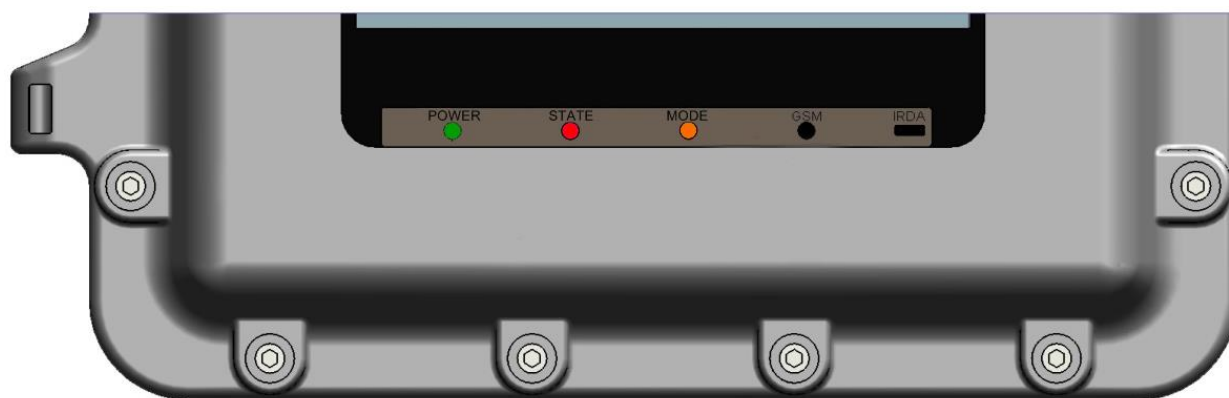

Fig. 14. Appearance of the LED panel
- A LED array at the front of the chromatograph (when the chromatograph is equipped with an LCD display and a touchscreen, Fig. 14) that is designed to visualize the main modes, display errors and accidents of the chromatograph. The purpose and functions of the LEDs are shown in the table below.